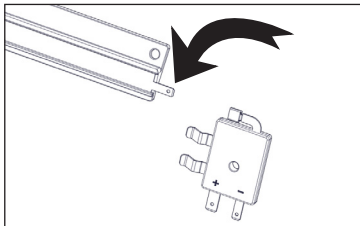
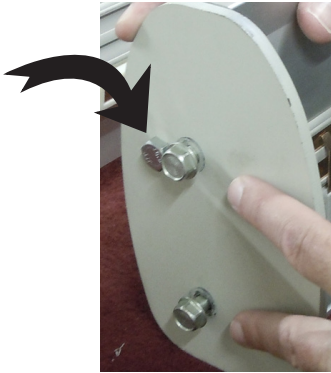

Fig. 4
Fig. 6
6. Attach charge contact to slow down (communications) strip (Fig. 4).
8. At bottom end of rail, slide charge contact assembly from Fig. 4 into back side of rail (Fig. 6). Assembly will fit snugly against charge strip carrier.
- Use 1/2" socket to install two (2) 5/16" x 18 x 1" self-threading screws to mount the lower rail endplate (Fig. 6). A dab of grease will make installation easier.